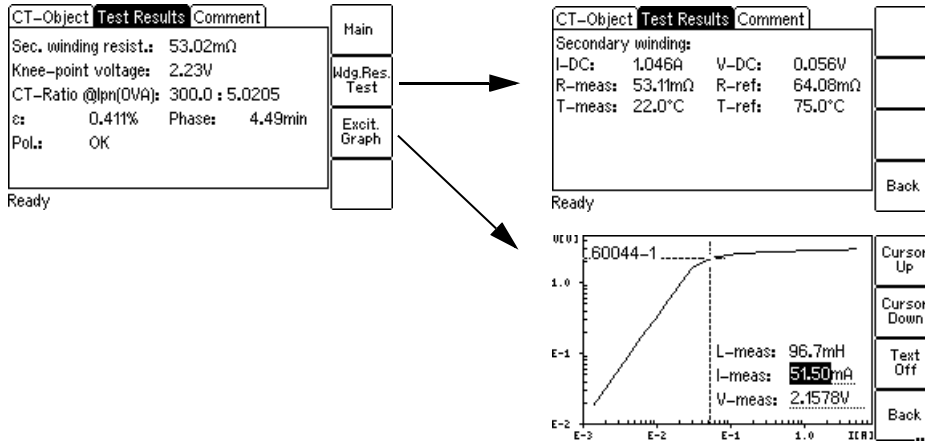

Figure 4-6: **Test Results** card after the test is finished
1. Display the **Test Results** card to view the test results (refer to Figure 4-6). Press **Wdg. Res. Test** to display the details of the winding resistance test and/or press **Excit. Graph** to display the excitation graph (see also 7.3.3 on page 85 and 7.3.4 on page 86).